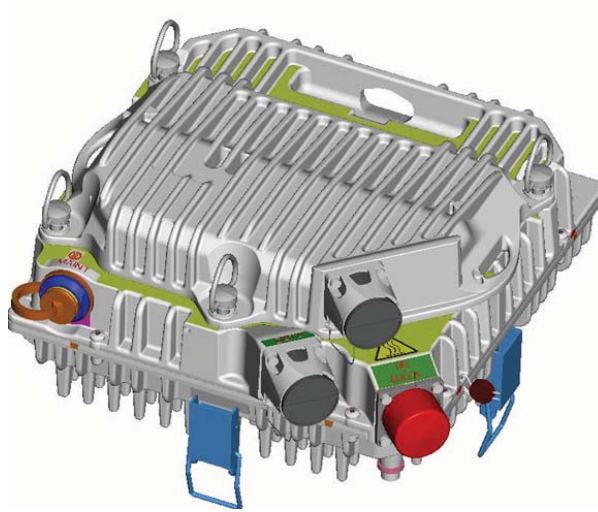

Figure 501. External module installed
- 6) Install the module on the MPT-HC V2 and lock the 4 screws with a screwdriver. Pay attention to the correct position of the screws, as shown in Figure 501. The slot of the screw must be aligned with the indication on the MPT-HC V2.